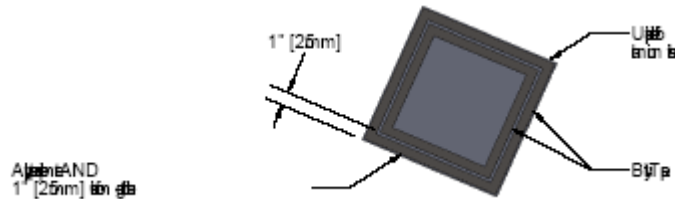

Figure 4 - Butyl Tape Applied to Aluminum Sheet
- b. Scuff the unpainted side of the aluminium sheet and apply butyl tape around the inner perimeter of the sheet. Apply a second application approx. 25mm in from the perimeter (Figure 4)